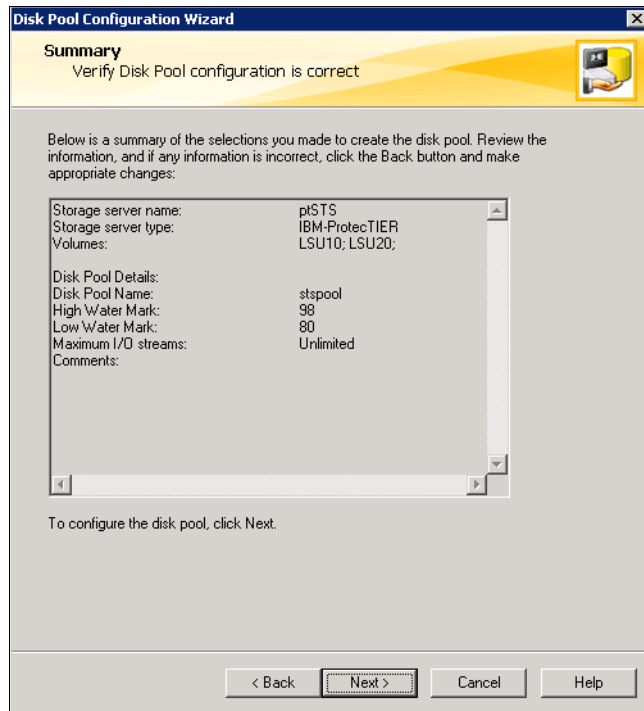

Figure 9-28 Summary window for disk pool configuration
5. Verify that the disk pool configuration is correct and then click **Next** (Figure 9-28).